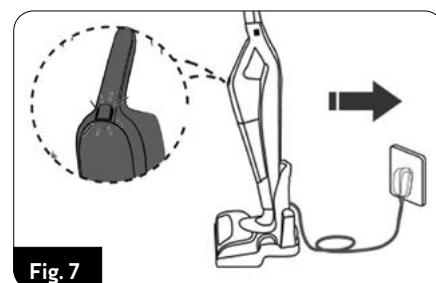

Fig. 7
2. Place the correctly assembled vacuum cleaner with the main handle and the electric brush on the docking station (fig.7). Connect the charger to the power supply network.